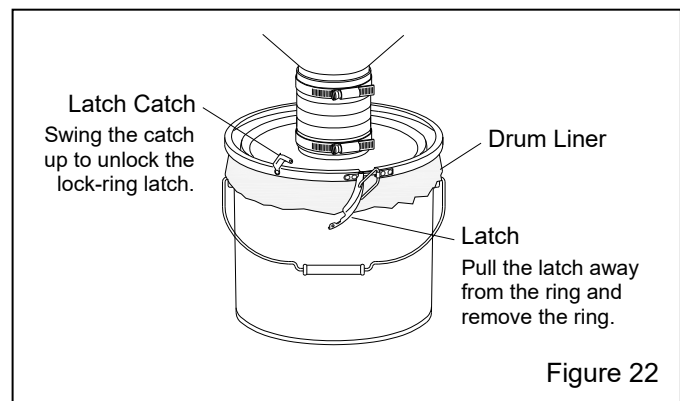

Figure 22
1. Turn off the exhauster and unlatch the lid lock ring from the dust container, as shown in Figure 22.